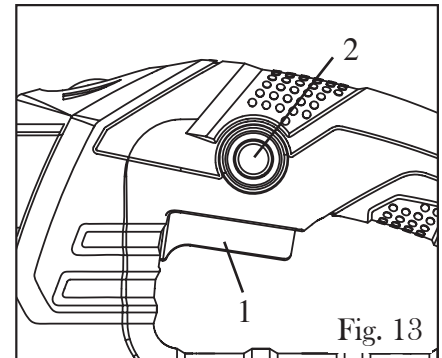

Fig. 13
TURNING THE TOOL ON/OFF (Fig. 13)
- To turn ON the tool, pull the power trigger (Fig. 13 - 1).
- To lock the tool ON, pull the trigger (Fig. 13 - 1) and press in the lock-on button (Fig. 13 - 2). Release the power trigger and the lock-on button will remain depressed to keep the tool running.